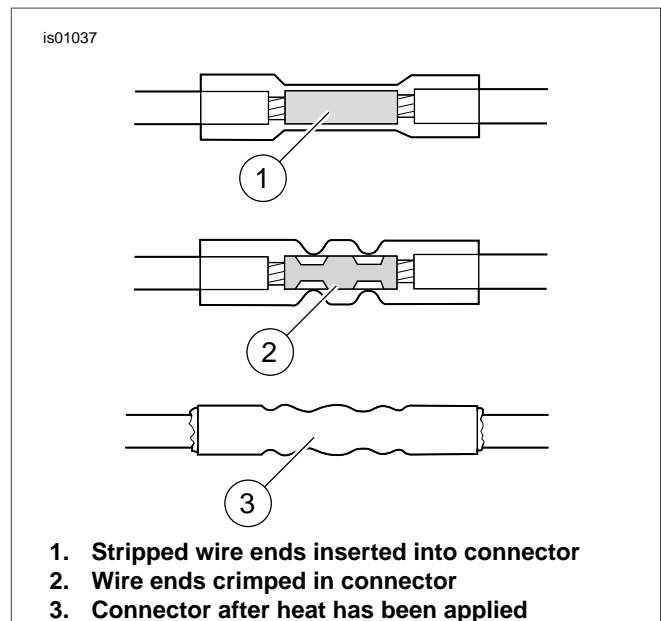

Figure 5. Sealed Butt-Splice Connections
2. See Figure 5. Splice each set of cut wires into butt splice connectors. Connect Black to Black in one connector, and Violet/Brown to Violet/Brown in the other connector. Repeat the splice for both left and right turn-signal wire sets.
4. See Figure 5. Use an UltraTorch UT-100 (HD-39969), Robinair Heat Gun (Kent-Moor Part Number HD-25070) with Heatshrink Attachment (HD-41183), or other suitable radiant heating device to heat-shrink the jacket of the butt-splice connector to the wire. Apply heat from the center of the crimp outward to the crimp ends until the sealant encloses both ends of the connector.